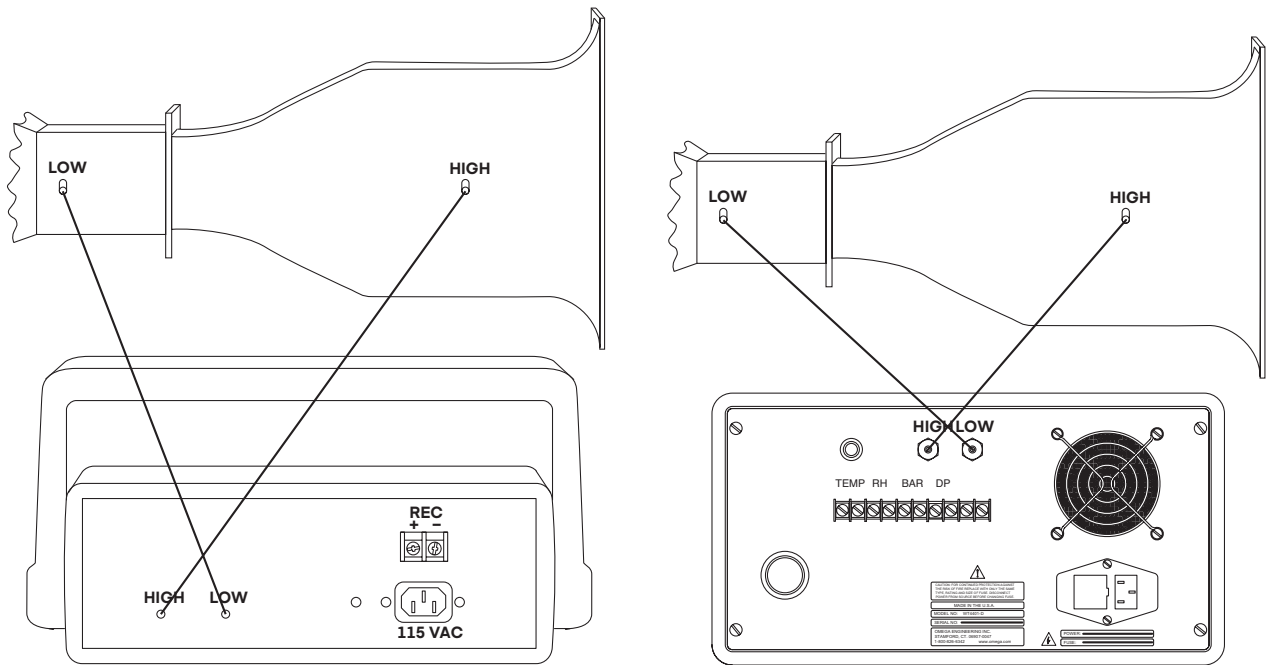

Figure 8: (Left) Tubing Placement with Standard Electronics Box and Wind Tunnel
- Step 3:** Place the electronics box next to the tunnel. Attach the two (2) pieces of tubing as shown in Figure 8. Also attach the power cord to the rear of the box. DO NOT TURN ON THE ELECTRONICS BOX YET EITHER.